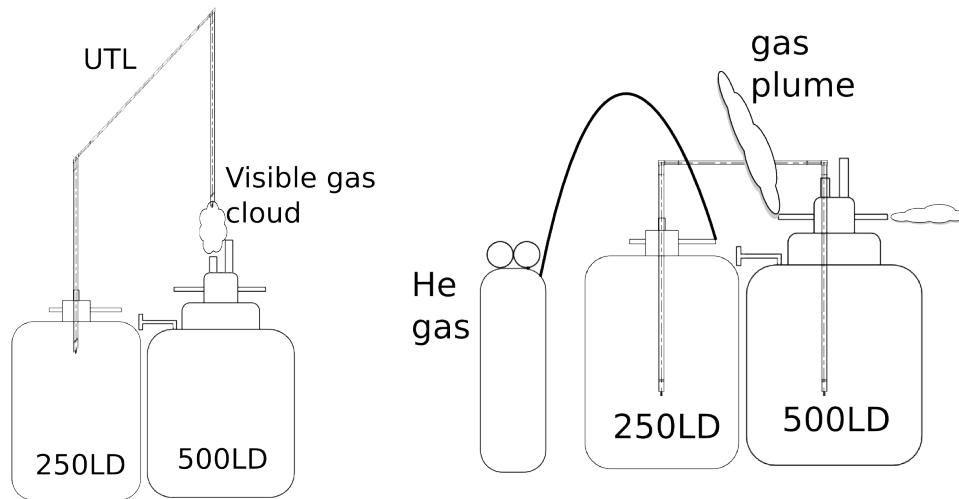

Figure 4.8: Inserting the UTL first in the 250LD, then the 500LD, as described in Steps 7 and 8.
7. Release the 250LD pressure from the main flow valve and close the pressure relief valve. Slowly lower the correct end of the UTL down into the 250LD about 30 cm or until helium gas is blowing out the 500LD end, as shown in the left side of Figure 4.8. Then, lower the 500LD end in as far as it can go, while continuing to slowly lower the 250LD side at a rate of about 2 cm/s. A cold plume should be coming out of the 500LD. Check that no gas is escaping through the Goddard fittings on either dewar (if it is, replace fitting o-rings).
shown in the right side of Figure 4.8. There should now be 2 PSI on the 250LD.